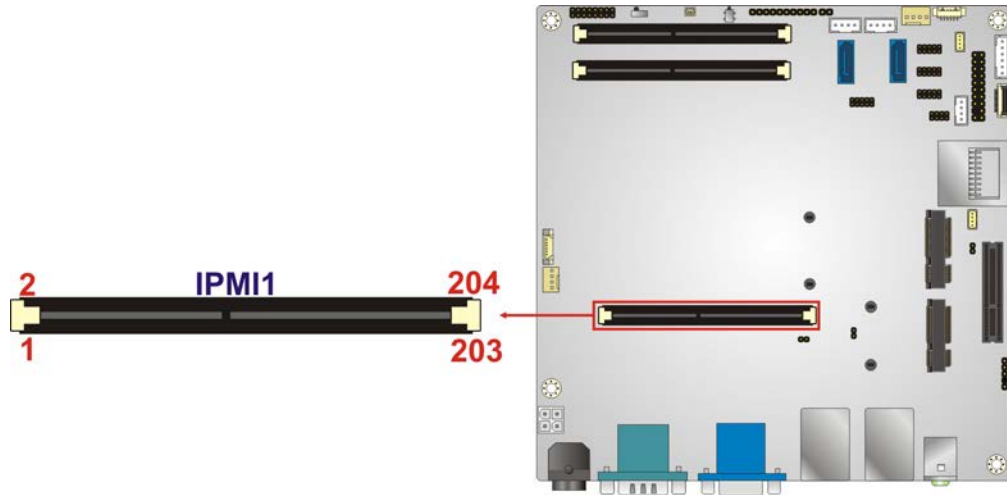

Figure 3-13: IPMI Slot Location
- CN Location:** See **Figure 3-13**